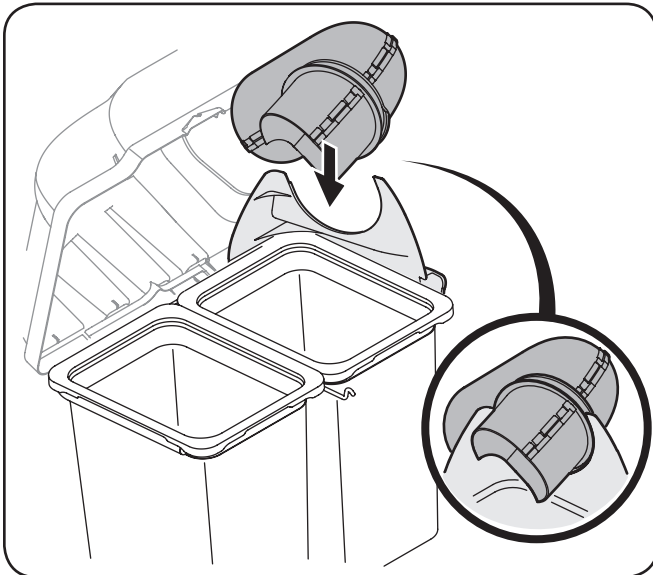

Figure 5-25
8. With the bagger cover open, pivot the upper chute tube into position so that the chute rests in the upper chute support. See Figure 5-25.